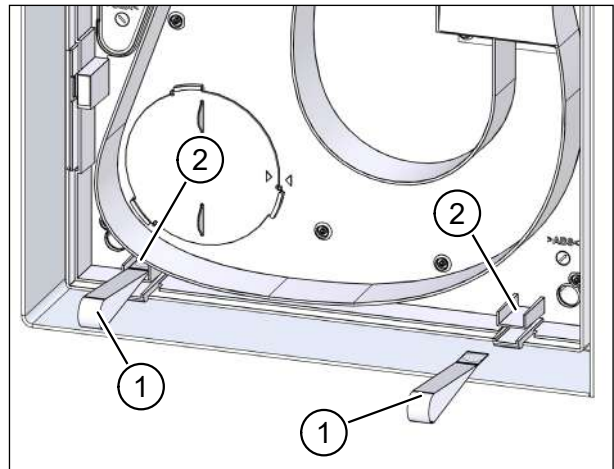

Fig. 50: Sticking on the unit cover pull-out straps
- ▶ Take the two unit cover pull-out straps (item 1 in Fig. 50) from the U2 adapter kit.
- ▶ Stick the straps to the tops of the unit cover retainer (item 2 in Fig. 50).
For U2 integrated into wall installation, make sure that the unit cover pull-out straps (item 1 in Fig. 50 on page 42) are hanging down beneath the unit cover.